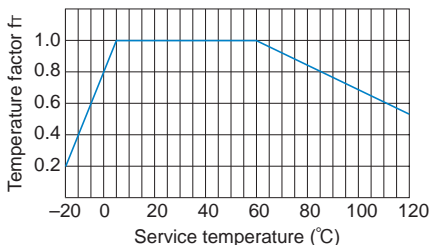

Fig.2 Temperature factor
If the temperature of the spline nut exceeds the normal temperature range, the seizure resistance of the nut and the strength of the material will decrease. Therefore, it is necessary to multiply the dynamic permissible torque (T) and the dynamic permissible thrust (F) by the corresponding temperature factor indicated in Fig.2.
- fr : Temperature factor (see Fig.2)
- F : Dynamic permissible thrust (N)
- PF : Axial load (N)